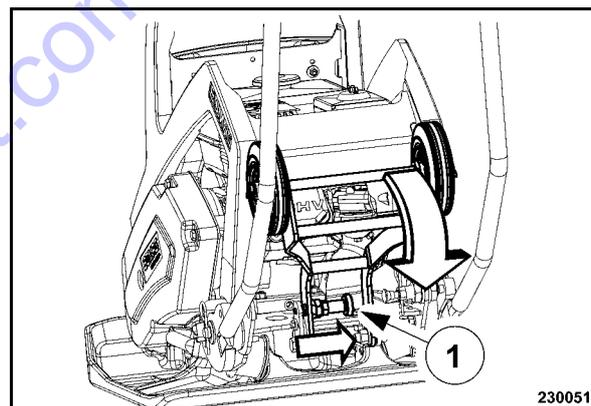

Fig. 35
- Unlock the safety bolt (1) (Fig. 35) and fold down the transport wheels.